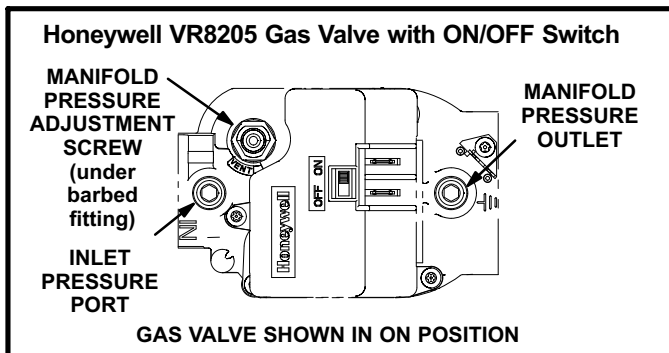

FIGURE 56
Honeywell VR8205 Gas Valve - Move gas valve switch to **OFF**. See figure 56 for Honeywell VR8205 valve.
- Honeywell VR8205 Gas Valve* - Move gas valve switch to **ON**. See figure 56 for Honeywell VR8205 valve.